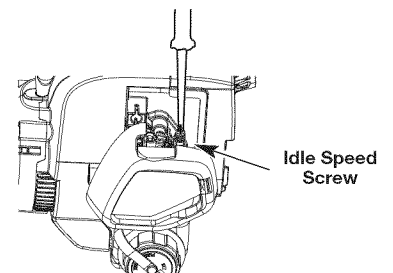

Fig. 15
The idle speed of the engine is adjustable. An idle adjustment screw is between the air filter cover and the engine starter housing (Fig. 15).
2. Release the throttle trigger and let the engine idle. If the engine stops, insert a small phillips screwdriver into the idle adjustment screw (Fig. 15). Turn the idle speed screw clockwise 1/8 of a turn at a time (as needed) until the engine idles smoothly.